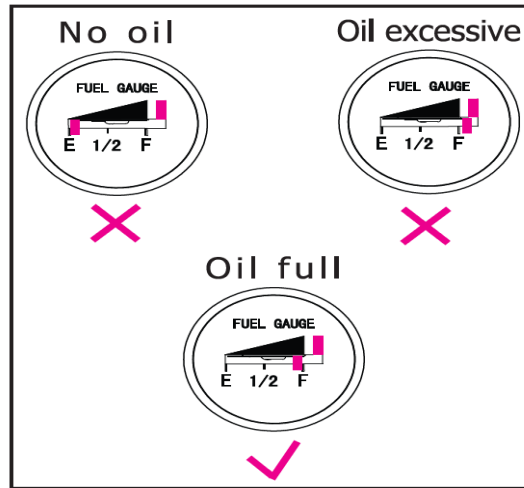

Figure 1.
5. Stop filling as soon as the hand in the fuel gauge points to the mark "F" indicating "full" (Fig.1).